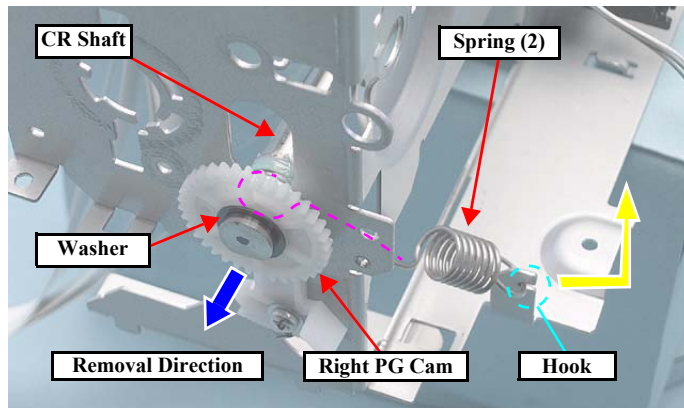

Figure 4-146. Removing the CR Unit (2)
- When attaching the spring (2) and the washer for the Right PG Cam to the CR Shaft, make sure to attach them to the positioning slits on the CR Shaft. (See Fig.4-146)